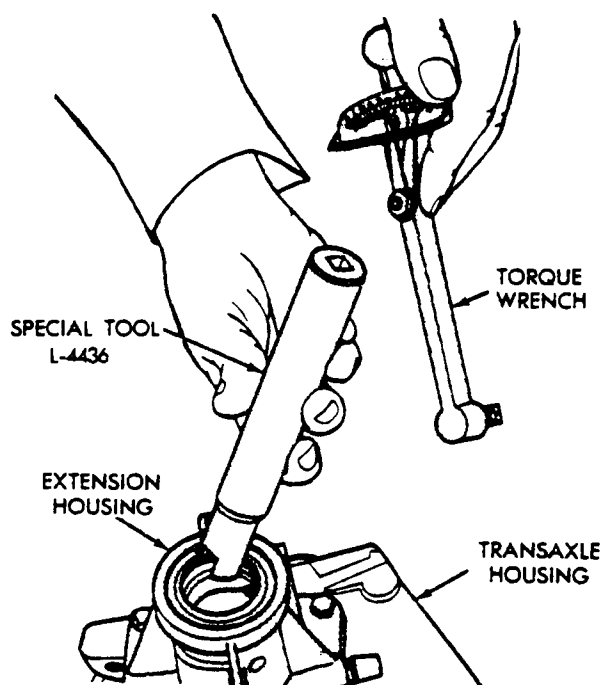

FIGURE 12
12. Using special Tool L-4436 and an inch-pound torque wrench, check the turning torque of the differential, reference Figure 12. The turning torque should be between 5 and 18 inch-pounds.